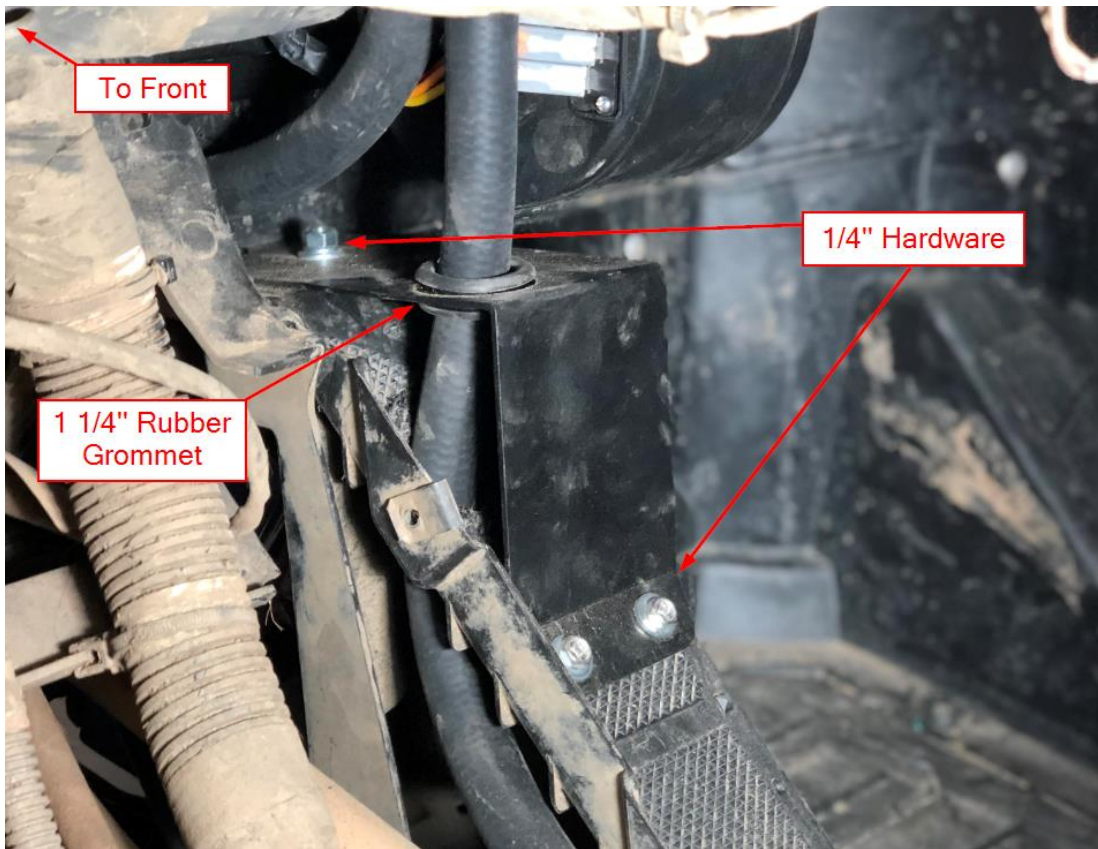

Figure 15
- g. Insert the remaining 1 1/4" Rubber Grommet into the Lower Heater Hose Bracket, then route approximately 12" of 5/8" Heater Hose through the grommet. Position the bracket over the three 1/4" Holes drilled earlier and use the three 1/4" x 1" Serrated Flange Bolts and 1/4" Serrated Flange Nuts to secure the bracket in place as shown in Figure 15.